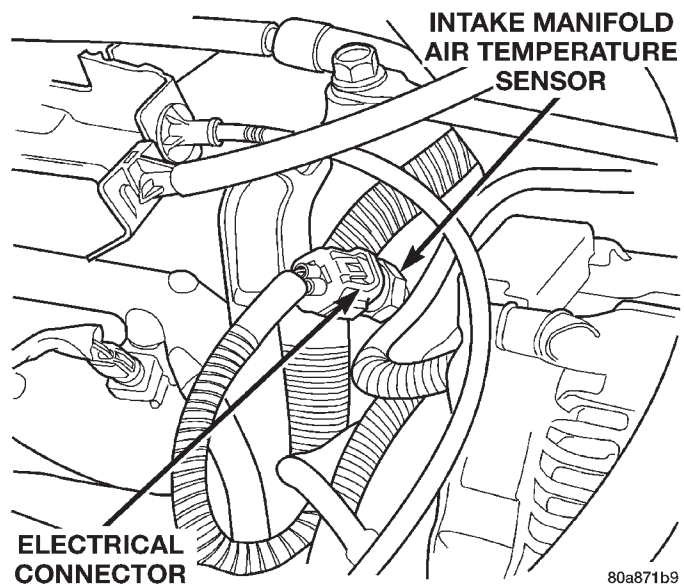

Fig. 57 Air Temperature Sensor—5.2L/5.9L Engines
(1) Disconnect the wire harness connector from the intake manifold air temperature sensor (Fig. 57).
(2) Test the resistance of sensor with a high input impedance (digital) volt-ohmmeter. Refer to SENSOR RESISTANCE (OHMS)—COOLANT TEMPERATURE SENSOR/INTAKE AIR TEMPERATURE SENSOR chart. The resistance (as measured across